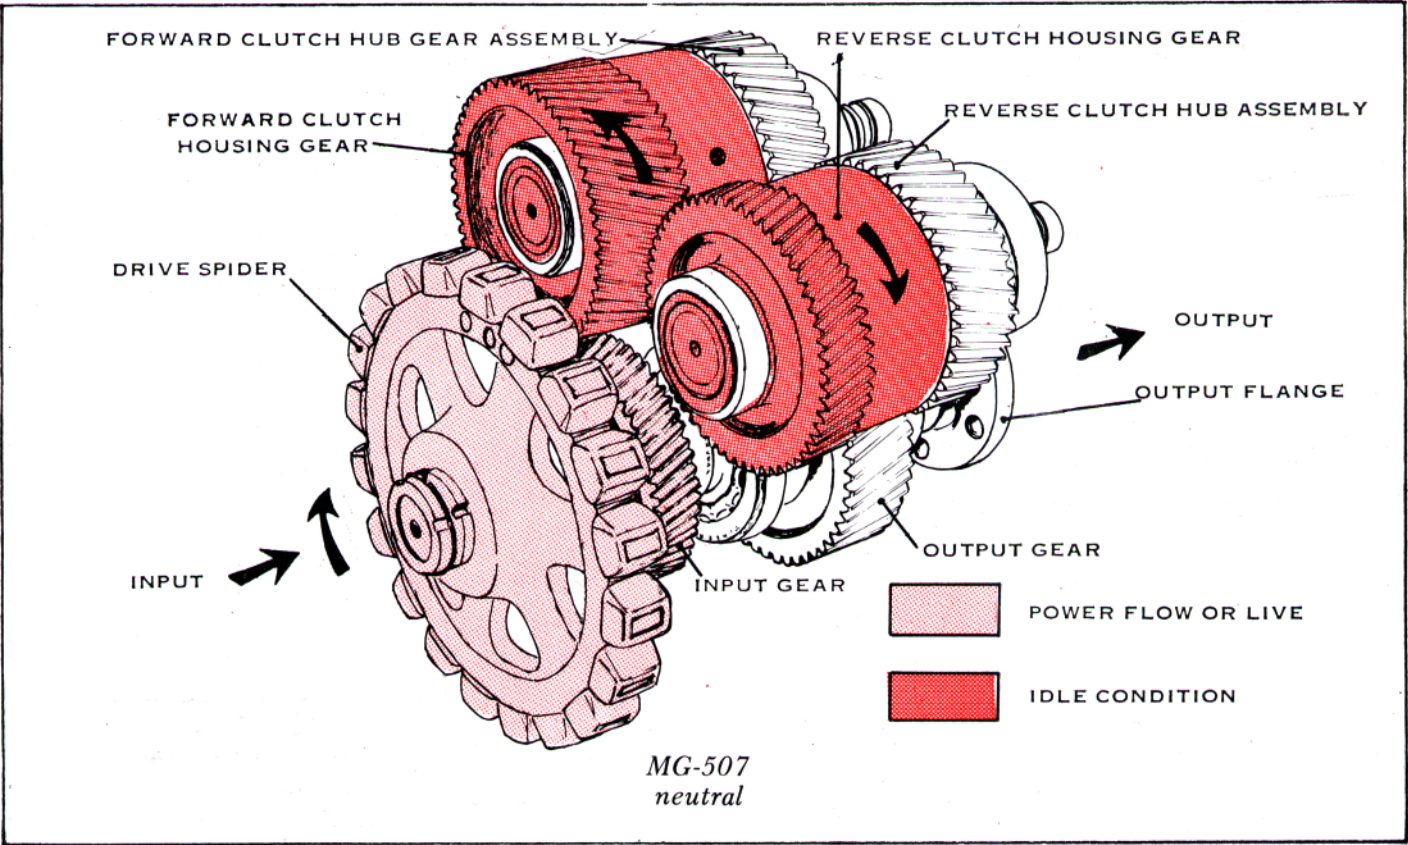

Figure 4. Model MG-507 Marine Transmission Power Flow - Neutral - Schematic View.
A. Neutral (fig. 4). When in neutral, all parts that rotate in the marine transmission while in this position, turn at 1.056 : 1, ratio of engine speed. The connecting member between the engine and the Marine Transmission is the driving ring. The drive spider is on the input shaft. The input gear is on the input shaft. Therefore the input gear turns at engine speed and in engine direction. The input gear is in constant mesh with the forward clutch housing gear, and turns the gear the clutch shaft and the sintered metal clutch plates at ratio of engine speed and in anti-engine direction. The forward clutch housing gear is in constant mesh with the reverse clutch housing gear, and the gear, the clutch shaft, and the sintered metal clutch plates rotate at 1.056 : 1, ratio of engine speed and in engine direction. The oil pump assembly which is connected to the end of the reverse clutch shaft, also